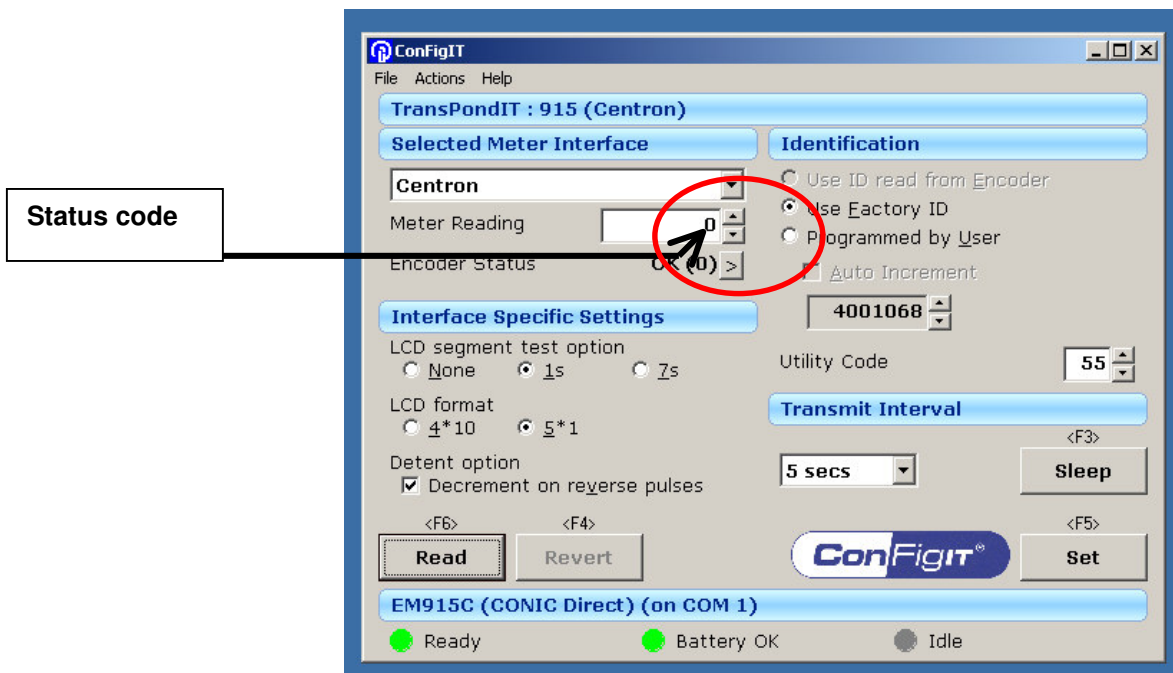

Figure 18: Location of status code – (0) indicates normal operation
- When displayed by the ConFigIT PC Software, a status code of 0 indicates normal operation (see Figure 18). The specific code number is enclosed in brackets ().